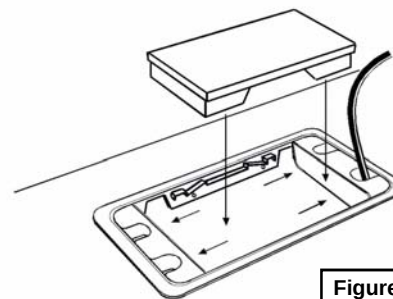

Figure 4C
- Replace the grommet frame with the center cover into the worksurface cut-out. **Figure 4C.**